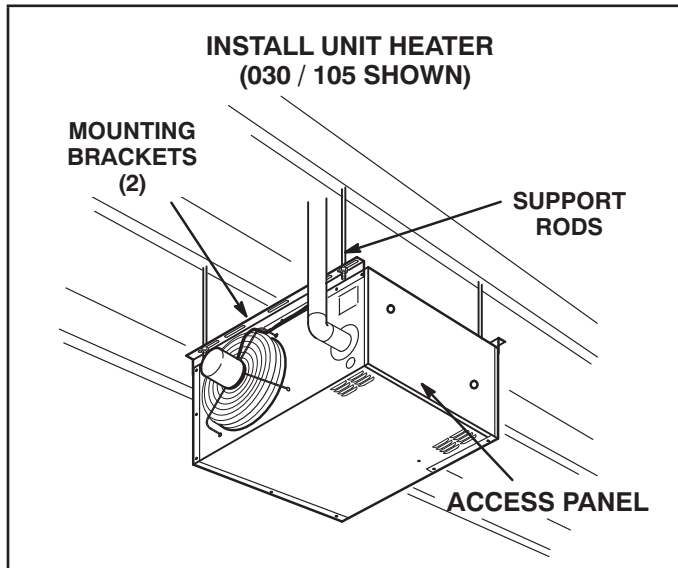

FIGURE 2
Unit may be installed as shown in figure 2 or rotated 180°.
- 6 - To support unit, secure mounting bracket to ceiling joist or truss. Unit may also be supported using support rods as shown in figure 2.